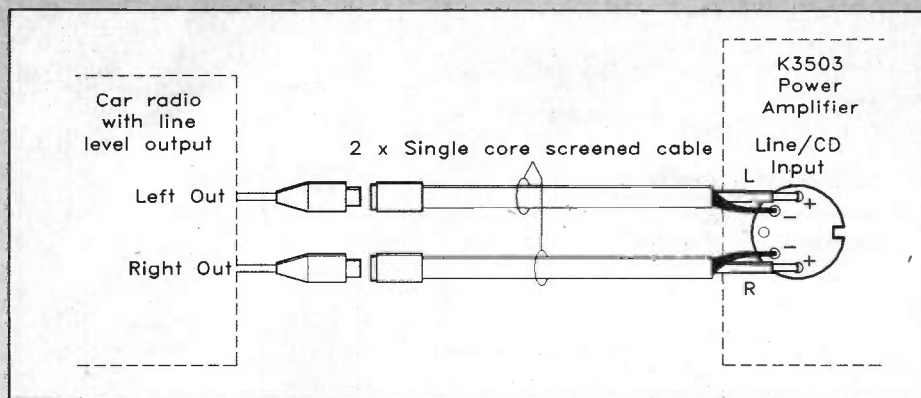

Figure 7. Line-level connections to the K3503 using separate cables.
2. Connect the line output (pre-amplifier output) to the DIN connector marked LINE/CD, using screened wire. Ideally use a separate cable for the left and right channels, as shown in Figure 7. If space and cost are at a premium, four-core